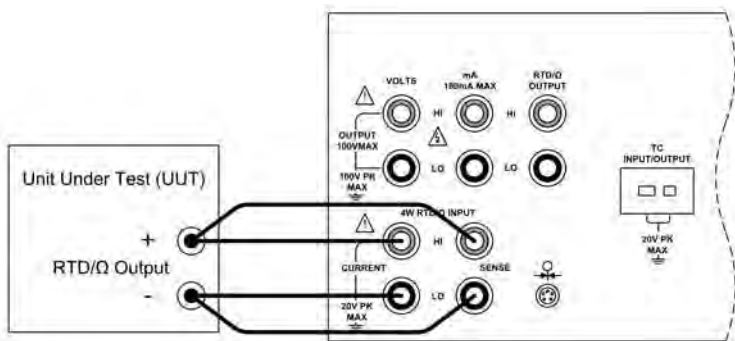

Figure 12 - RTD/Ω Input Connection
- Connect the unit under test to the 4 wire RTD/Ω input terminals of the CL3001 as shown in figure 12.